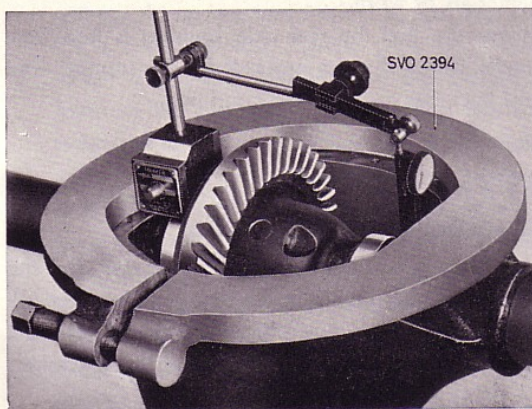

Fig. 12. Expanding the drive pinion carrier.
7. Fit tool SVO 2394 in the holes in the drive pinion carrier as shown in Fig. 12. Fit an indicator so that the expansion of the drive pinion carrier can be read off. Tighten the tensioning screw so that the carrier is expanded not more than 0.3 mm (0.012"). Remove the indicator. Lift out the differential carrier with crown wheel.
11. Fit tool SVO 2394, see Fig. 12, and an indicator on the drive pinion carrier. Tighten the tensioning screw so that the drive pinion carrier is expanded by not more than $0.012''$ (0.3 mm). Remove the indicator. Fit in the differential with bearings. Then remove the tool SVO 2394.